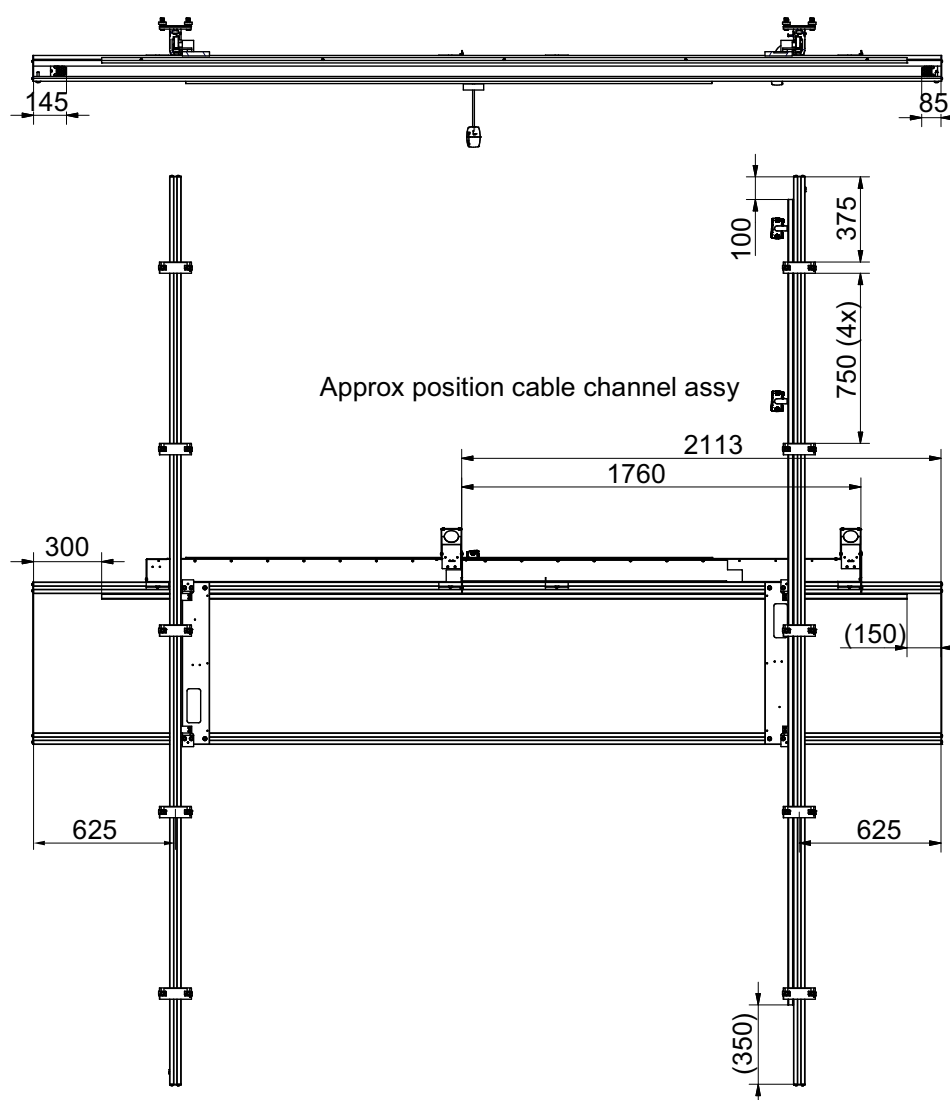

Fig. 4-5 Approximate position cable channel assembly
3. For the position of the ceiling rail with tooth belt, see **Fig. 4-5**